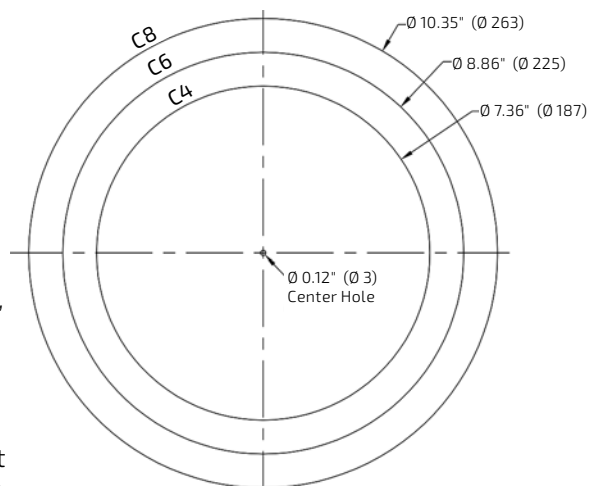

Figure 4. Cutout template dimensions
1. Mark the hole location on the ceiling tiles and, using the cutout template provided with your C SERIES loudspeakers, cut a hole to the precise size (Figure 4).